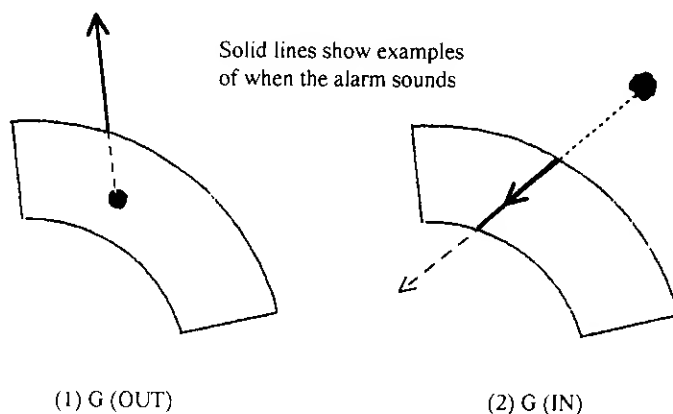

Figure 2-15 Auto In/Out Alarm
Case 1. When there are targets inside the zone, the alarm zone is automatically set to "Auto Out Alarm" mode and the indication "GUARD" is replaced by "G (OUT)". The audible alarm sounds only on targets which go out of the zone or disappear. See Figure 2-15 (1).
Case 2. When no targets exist inside the zone, the alarm zone is automatically set to "Auto In Alarm" mode and the indication "GUARD" is replaced by "G (IN)". The audible alarm sounds only on targets which go into the zone. See Figure 2-15 (2).